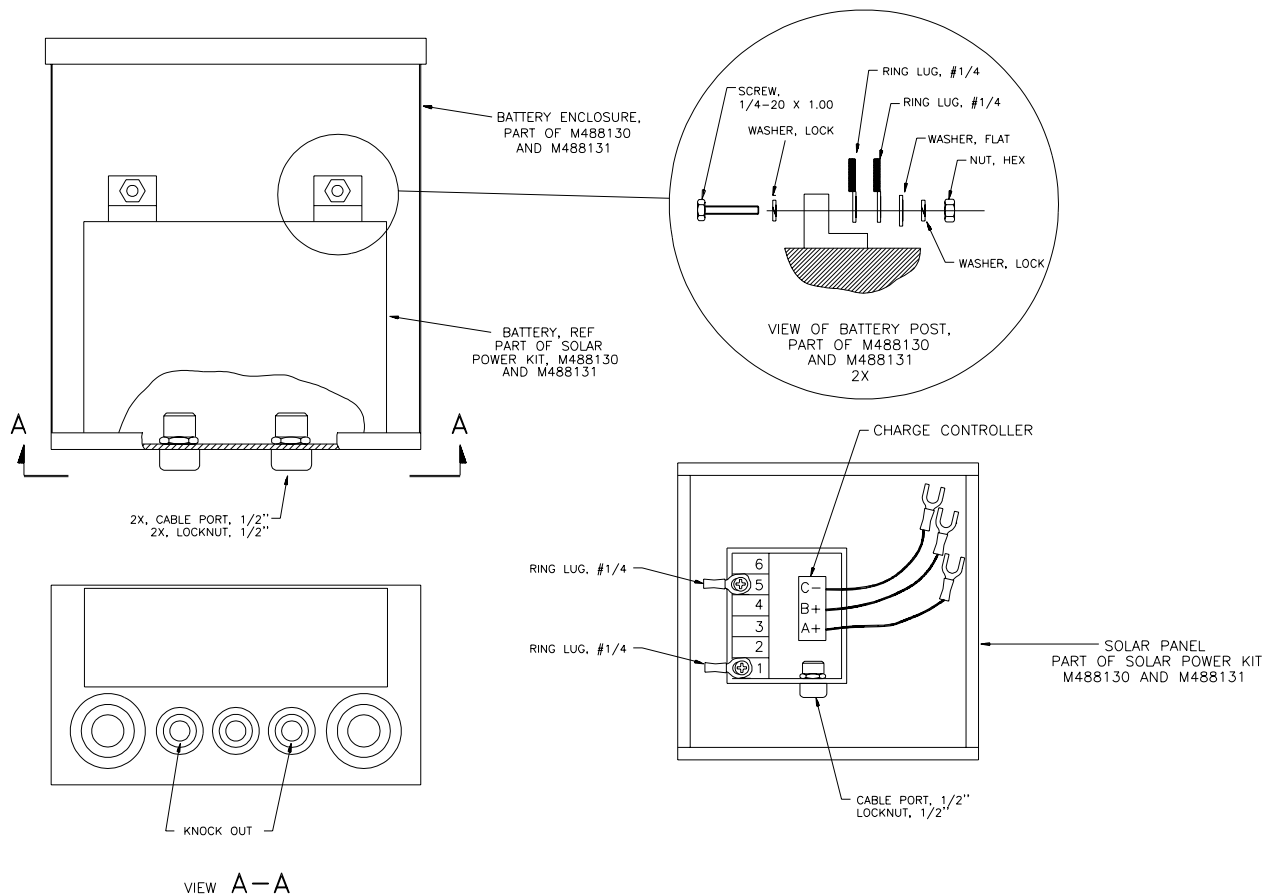

Figure 13
(See **Figure 13**)
(See **Figures 13 and 14**)
- 17 Connect the solar panel-to-battery cable's WHITE wire to the battery's positive (+) terminal, and the BLACK wire to the battery's negative (-) terminal as shown in the detail in **Figure 13** ("view of battery post").
- 21 Connect the battery-to-METPAC cable's WHITE wire to the battery's positive (+) terminal, and the BLACK wire to the battery's negative (-) terminal as shown in the detail in **Figure 13** ("view of battery post").